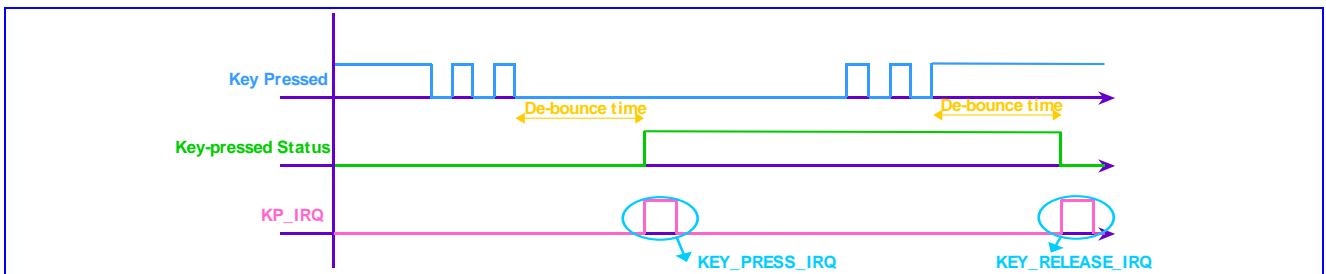
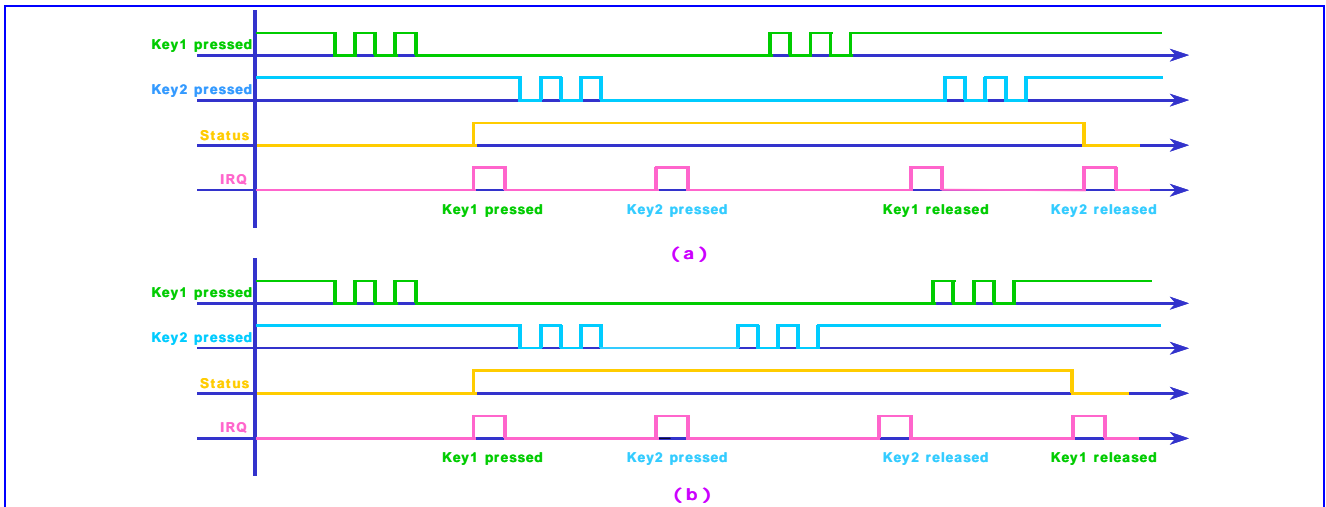

Fig. 8. One key pressed with de-bounce mechanism denoted
Fig. 9. (a) Two keys pressed, case 1 (b) Two keys pressed, case 2
This keypad can detect one or two key-pressed simultaneously with any combination. **Fig. 8** shows one key pressed condition. **Fig. 9** (a) and **Fig. 9** (b) illustrate two keys pressed cases. Since the key press detection depends on the HIGH or LOW level of the external keypad interface, if keys are pressed at the same time and there exists a key that is on the same column and the same row with the other keys, the pressed key cannot be correctly decoded. For example, if there are three key presses: key1 = (x1, y1), key2 = (x2, y2), and key3 = (x1, y2), then both key3 and key4 = (x2, y1) are detected, and therefore they cannot be distinguished correctly. Hence, the keypad can detect only one or two keys pressed simultaneously at any combination. More than two keys pressed simultaneously in a specific pattern retrieve the wrong information.